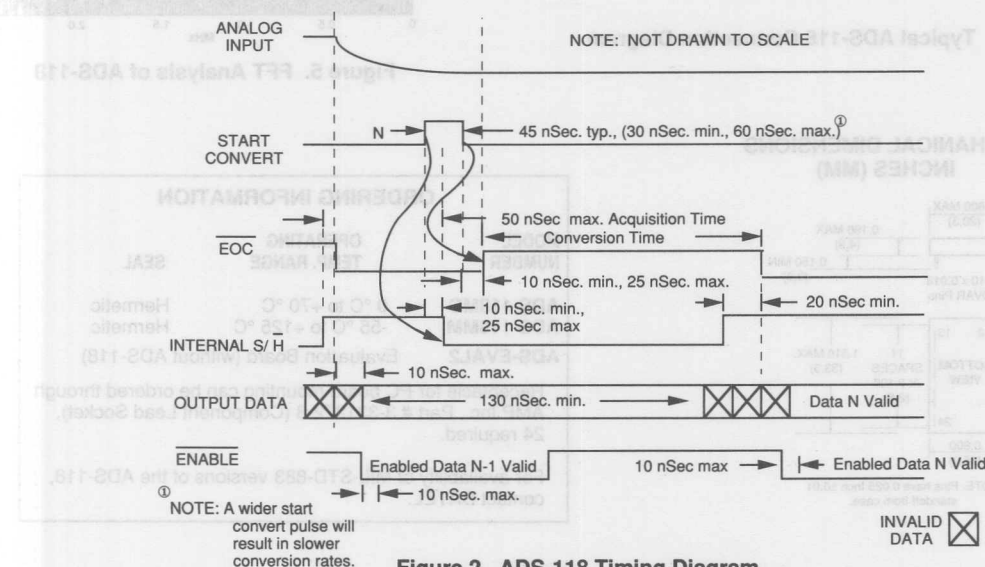

Figure 2. ADS-118 Timing Diagram
6. Figure 2 shows the relationship between the various input signals. The timing shown applies over the operating temperature range and over the operating power supply range. These times are guaranteed by design.